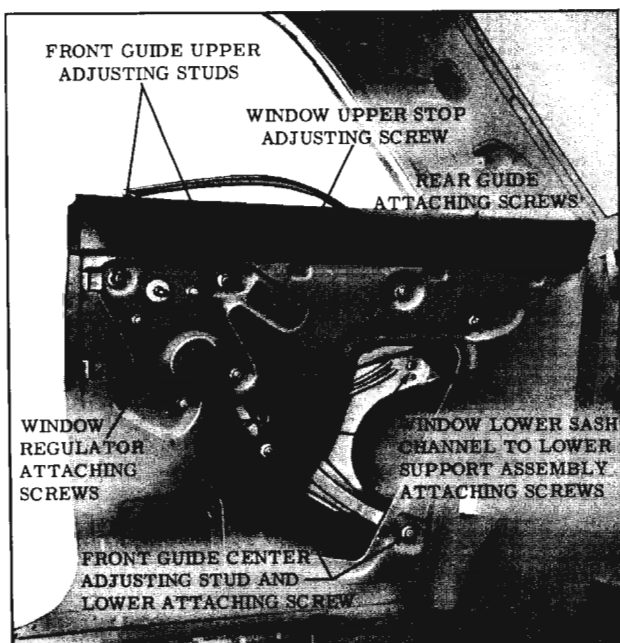

Fig. 16-271 Rear Quarter Hardware (47 Styles)
2. Operate window to almost full down position. Remove window lower sash channel-to-lower support assembly attaching screws. (Fig. 16-271)
To adjust rear quarter window fore or aft, loosen front guide adjusting stud nuts and rear guide attaching screws. (Fig. 16-271) Position window assembly fore or aft as desired, then tighten the nuts and screws.
To adjust rear quarter window in or out, loosen front guide adjusting stud nuts. (Fig. 16-271) Adjust studs in or out, as required, then tighten stud nuts.
To adjust top of rear quarter window in or out, loosen front guide center adjusting stud nut. (Fig. 16-271) Adjust stud in or out as required, then tighten stud nut.
To relieve a "bind" between the guides, loosen front guide adjusting stud nuts and rear guide attaching screws. (Fig. 16-271) Operate window to full up position and tighten front guide upper adjusting stud nuts and rear guide forward attaching screw. Operate window to full down position and tighten remaining stud nuts and screws.
2. Remove rear quarter window and rear quarter window rear guide. (Fig. 16-271)
2. Remove rear quarter window rear guide attaching screws. (Fig. 16-271) Disengage guide from roller on lower support assembly and remove guide through access hole.
3. Remove front guide adjusting stud nuts (Fig. 16-271) and disengage front guide and lower support assembly, as an assembly, from inner panel.
4. Remove window regulator attaching screws (Fig. 16-271) and remove regulator through access hole.